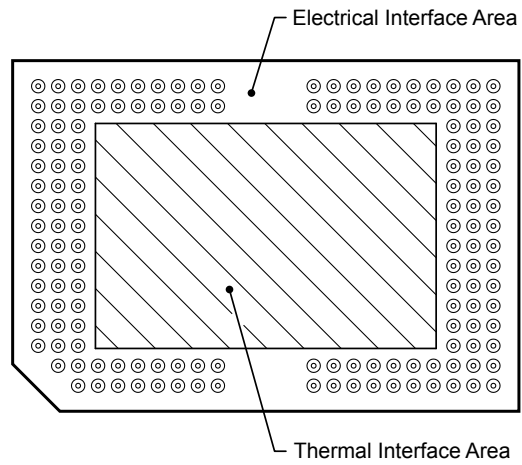

Figure 8. System Mounting Interface Loads
(1) Uniformly distributed within area shown in Figure 8.